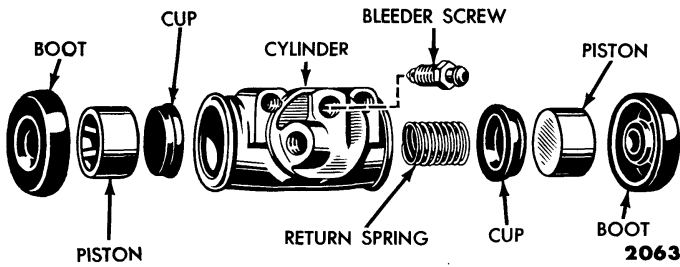

Fig. 5—Wheel Cylinder
(a) **MANUAL BLEEDING.** Keep the reservoir filled with fluid during the bleeding operation. Attach a rubber drain tube to the bleeder screw (fig. 5) at the wheel cylinder. Submerge the free end of the tube in a container partially filled with clean fluid. Loosen the bleeder screw, and depress the foot pedal slowly by hand.
The wheel cylinders are mounted on the brake carrier plates. Each wheel cylinder (fig. 5) contains two pistons, two rubber brake cylinder cups, a bleeder screw, and a piston return spring between the cups. Each end of each wheel cylinder is sealed by a rubber brake cylinder boot.
Remove the rubber brake cylinder boots from the wheel cylinder housing, then remove the pistons, cups, and piston return spring from the housing (fig. 5).
(3) **ASSEMBLY.** Coat all wheel cylinder parts with clean brake fluid before installation in the cylinder. Place the pistons, cups, and return spring in the cylinder bore, then install the boots. For the correct position of the wheel cylinder parts, refer to fig. 5. Thread the bleeder screw into the wheel cylinder housing. Install the wheel cylinder to brake shoe links in the cylinder boots, then install a wheel cylinder clamp, or wire the boots to the cylinder.